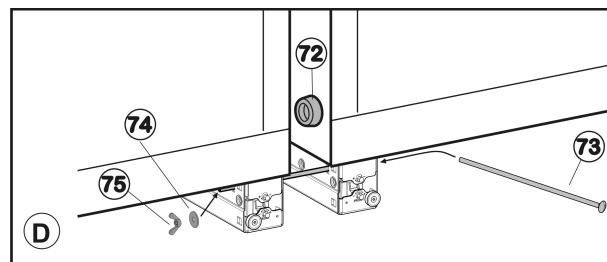

Fig. 48
- Insert long carriage bolt Fig. 48 (73).
- Push washer Fig. 48 (74) and nut Fig. 48 (75) onto the screw. Tighten nut until the spacer Fig. 48 (72) is touching the opposite side wall.